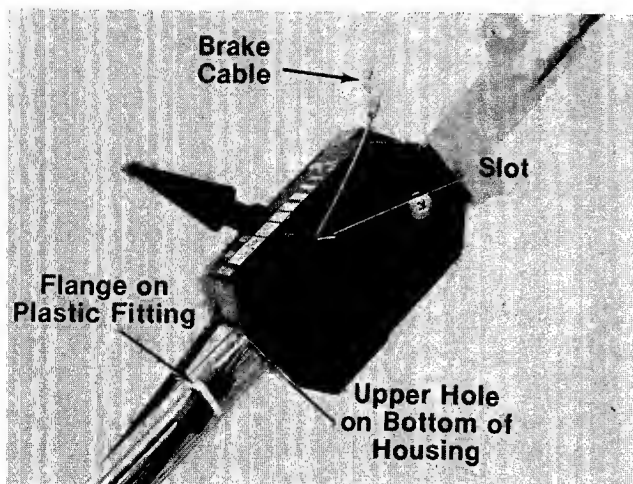

FIGURE 5.
8. Route the brake cable under the lower handle. Place the end of the brake cable into the upper hole on the bottom of the control housing, and through the slot as shown. The angle of the flange on the plastic fitting must be positioned downward as shown in figure 5. Be careful not to bend or kink the cable.